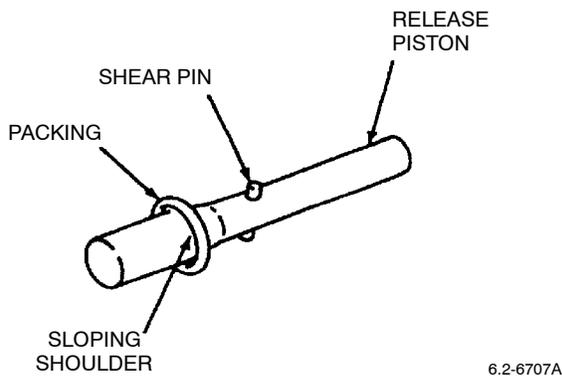

Figure 23. Lubricate Packing
(1) Lubricate packing with silicone compound and install over small end of release piston. Use care when moving packing over shear pin and position at sloping shoulder (Figure 23).